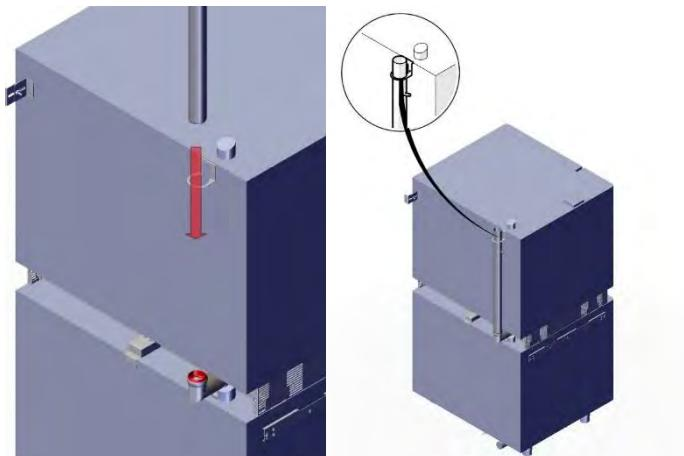

Fig. 56: Attaching the exhaust air pipe
13. Before attaching the exhaust air pipe, the pipe mount has to be clamped underneath the housing cover of the top device. The exhaust air pipe can then be inserted and connected to the double socket (Fig. 56).